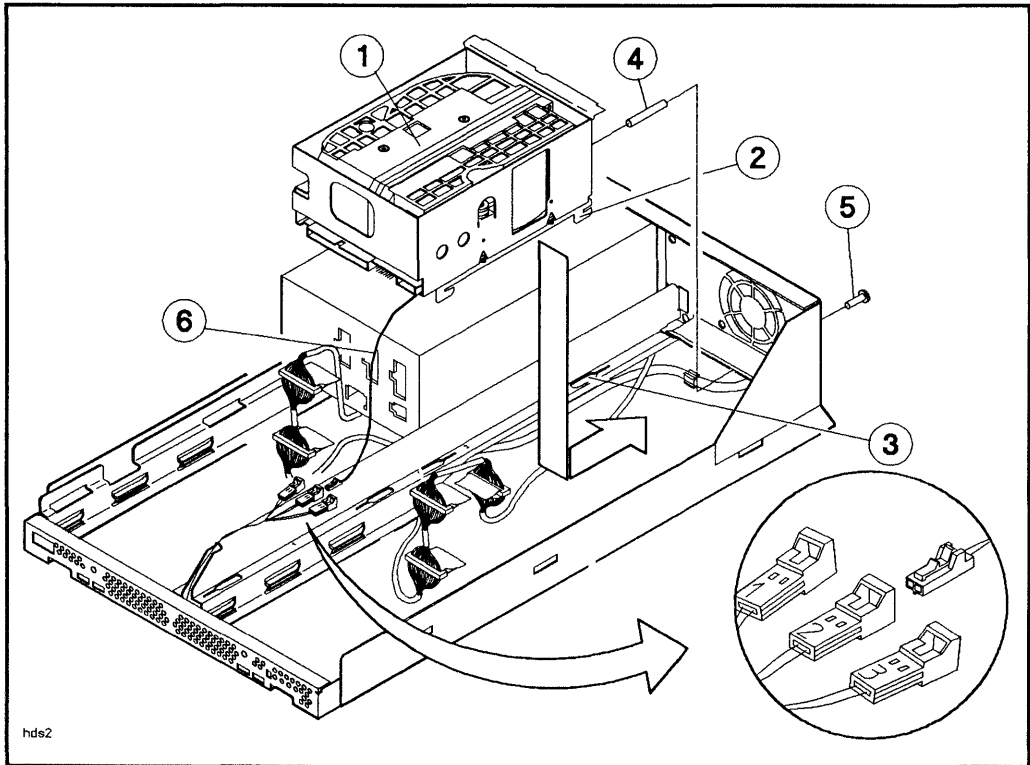

Figure 2-4. Installing the 5.25-inch Hard Disk Drive into Slot 2
- If you are installing the drive into slot 2 (the rear slot), push down on the drive and slide it toward the rear of the mass storage system chassis until the mounting tabs lock into the mounting slots (see Figure 2-4). Tighten the bracket screw through the hole in the rear of the mass storage system chassis into the drive bracket.